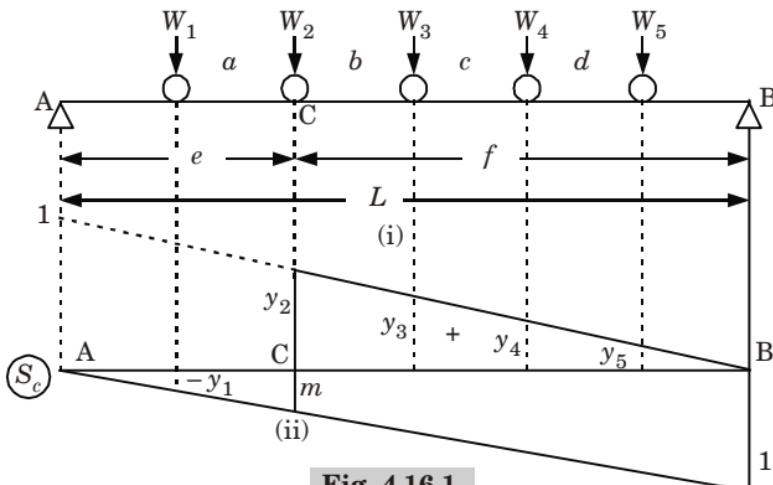

Fig. 4.16.1.
Consider the loads shown in Fig. 4.16.1. Let the given section be C. The ILD for  $S_c$ , the shear force at C, is shown in Fig. 4.16.2.
2. Let the loads move by a small distance  $dx$  towards the left from their position shown in Fig. 4.16.1.